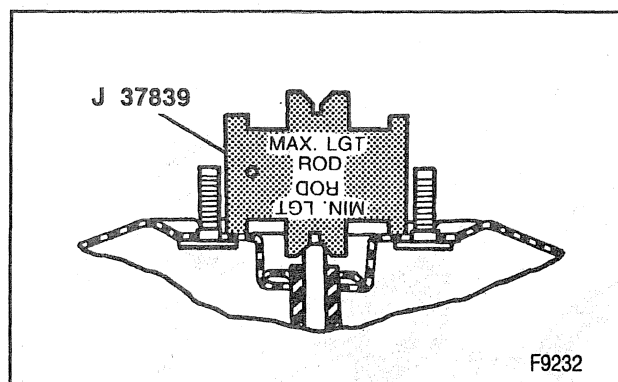

Figure 3—Gaging the Piston Rod
1. Gage the piston rod using J 37839 (figure 3).